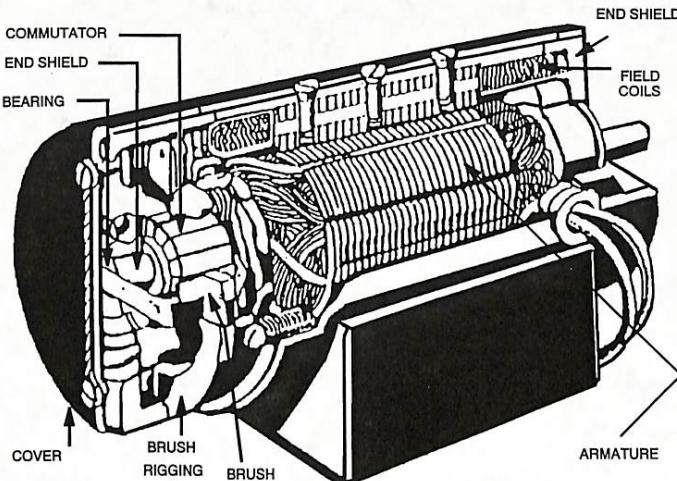

Figure 1. Parts of a DC Motor
The major parts in a practical DC motor are the armature assembly, the field assembly, the brush assembly and the end of frame. See Figure 1.
**Armature assembly.** The armature assembly contains: a laminated soft iron core, coils, and a commutator. The core, coils, and commutator are all mounted on a rotating steel shaft. (Figures 1 and 2)
**Field assembly.** The field assembly may consist of: the field frame, pole pieces, and the field coils as seen in Figure 1. (Note: The field assembly may include only a simple permanent magnet as will be discussed in the Operation of DC motors. Either field assembly is acceptable and operable.)